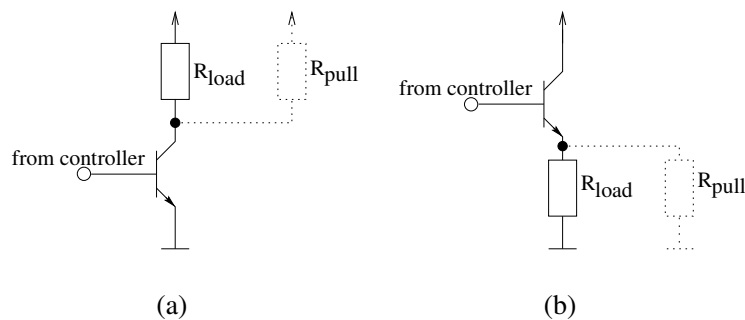

Figure 5.9: Transistor switch as npn common emitter (a) and npn emitter follower (b).
Although there are several ways to use a transistor as a switch, the most common one is the *npn common emitter (CE)* circuit depicted in Figure 5.9 (a). For reference, we have also included the less frequently employed *npn emitter follower* circuit in Figure 5.9 (b).